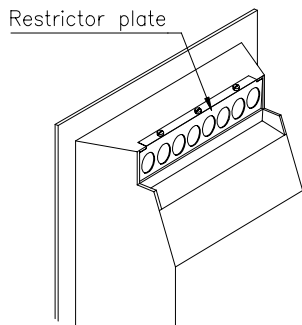

Fig.3 Fitting the restrictor plate
1. Fit the restrictor plate with its bottom edge inside the flue outlet, using 3 screws provided, as shown in Fig. 3.